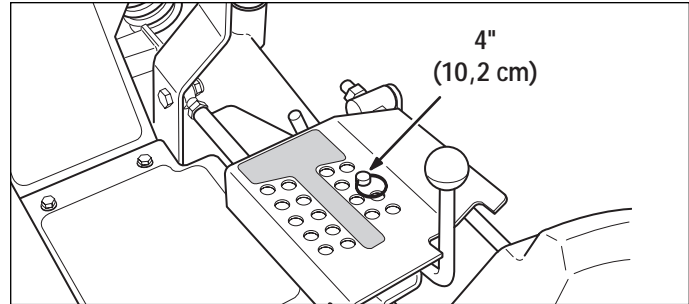

Figure 40. Deck Height Pin Position
2. Install the cutting height adjustment pin in the 4" (10,2 cm) position. See Figure 40.